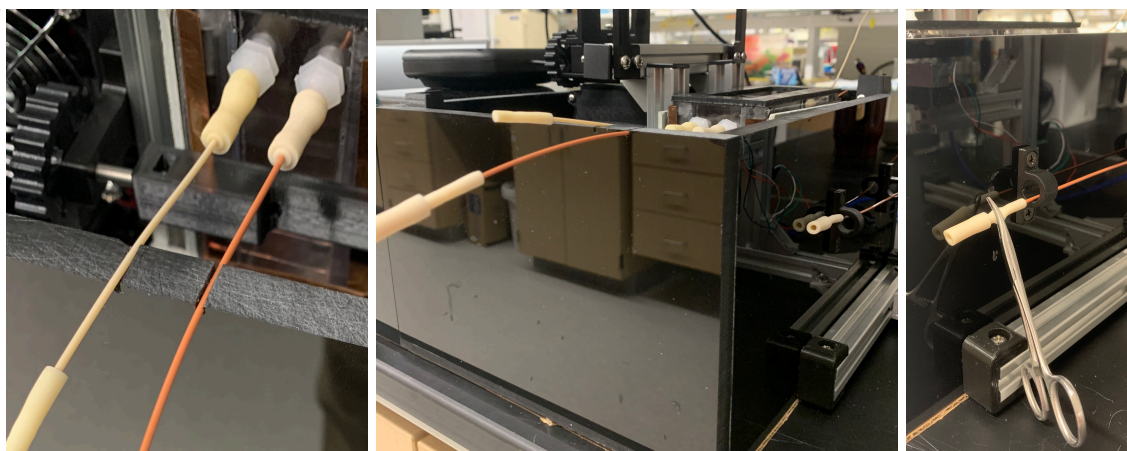

Fig. 3. The MRM left side's Test Compound Injection Assembly and Purge Tubing Assembly are placed in the groove of the BaroFuse Enclosure.
1. Place the MRM (with the four tubing assemblies attached) into the MRM Heater (Fig. 3 Left).
4. Feed the longer Test Compound Injection Assembly protruding from the back of the BaroFuse through the two tube guides on the side of the BaroFuse so the opening of the tubes faces forward (Fig. 3 Middle).
5. Clamp a hemostat on each of the Test Compound Injection Assemblies (Fig. 3 Right).